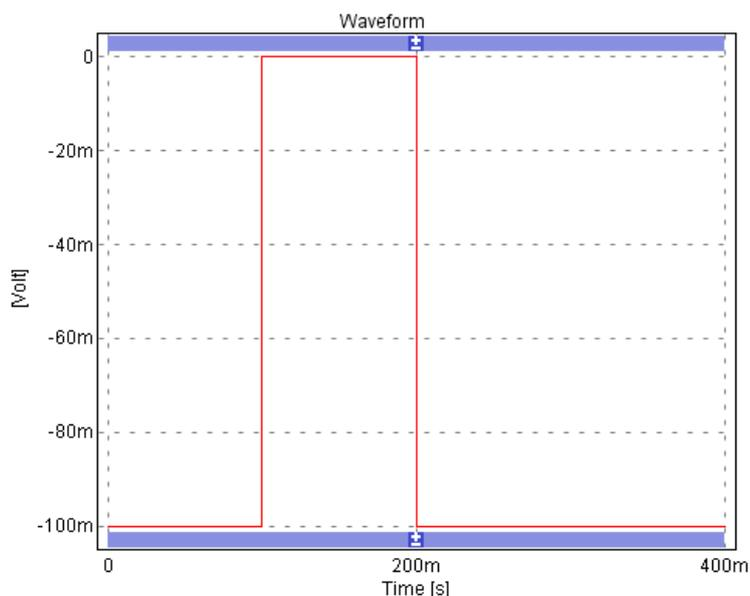
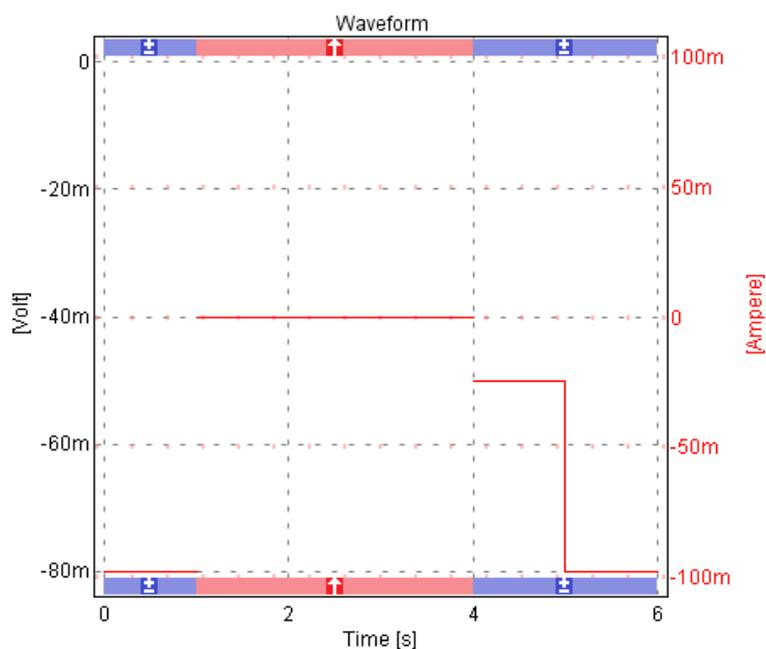

Figure 45 Basic waveform with a voltage clamp protocol
Figure 46 Basic waveform with both voltage clamp and current clamp segments
10. A basic waveform is created (Figure 45 and Figure 46), which can be either voltage clamped, current clamped, or mixed